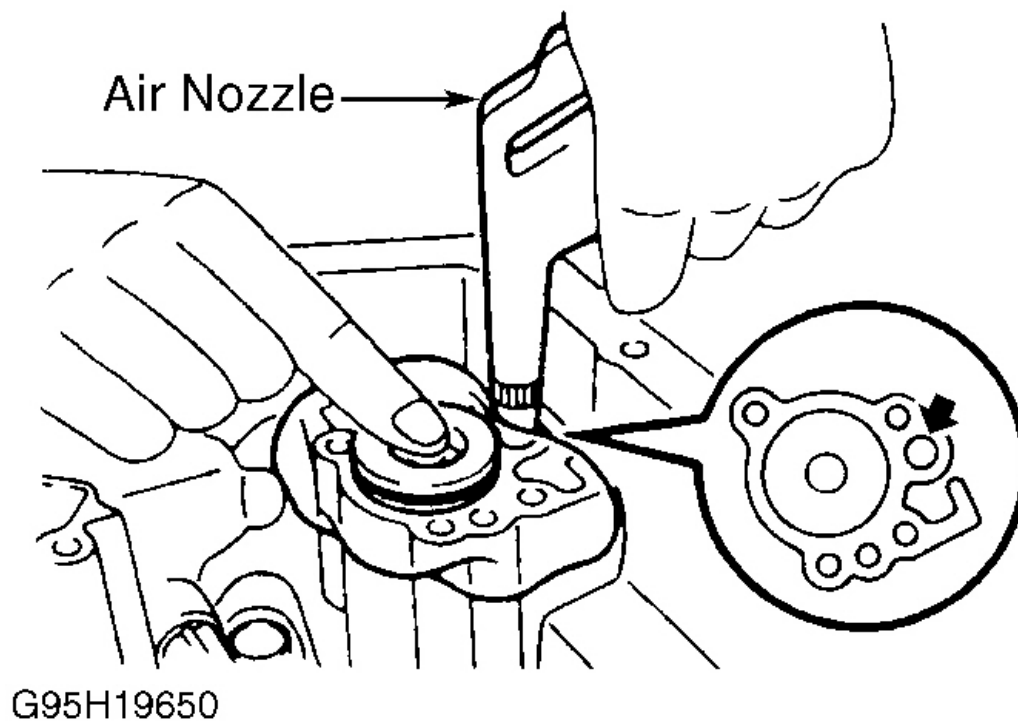
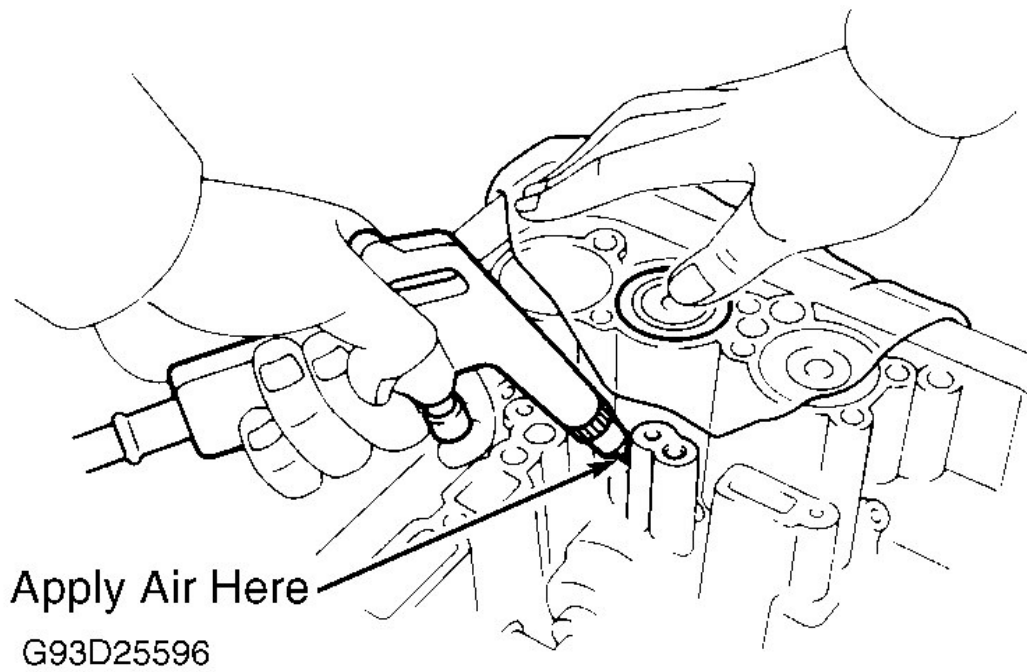

Fig. 11: Removing Underdrive Clutch Accumulator Piston & Spring
Fig. 12: Removing Direct Clutch Accumulator Piston & Spring
3. Apply 14 psi (1 kg/cm²) of compressed air to oil passage to remove underdrive clutch accumulator piston and spring. See **Fig. 11** . Apply 14 psi (1 kg/cm²) of compressed air to oil passage at base of piston housing to remove forward clutch accumulator piston and springs. Apply 14 psi (1 kg/cm²) of compressed air to oil passage to remove direct clutch accumulator piston and spring. See **Fig. 12** .